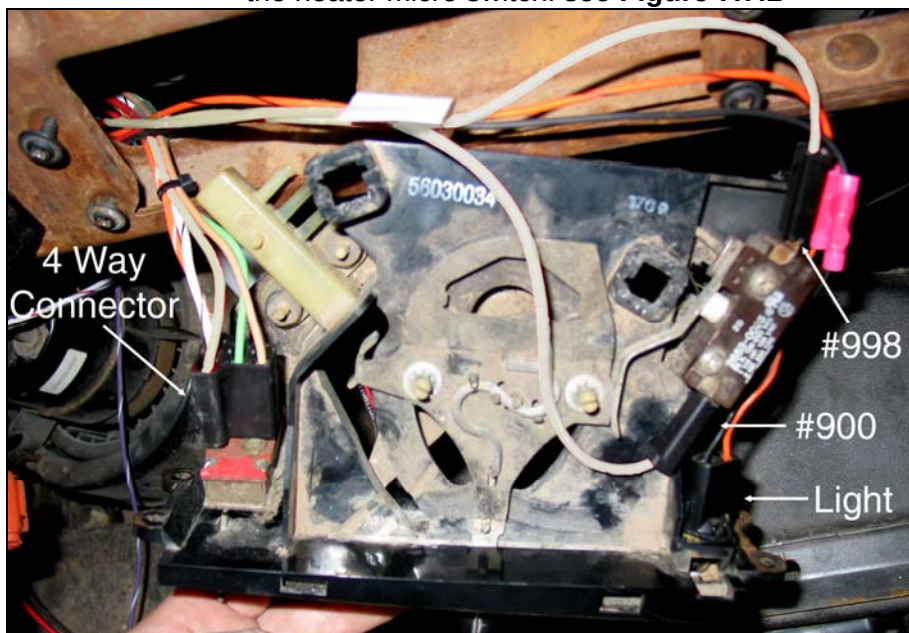
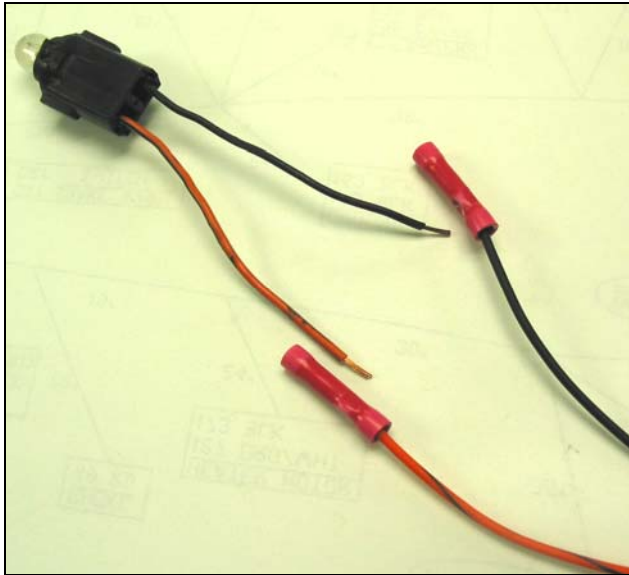

Figure 7.7.1 HVAC Switch
Figure 7.7.2 HVAC Panel Light
- 7.7.1 Connect the black 4 way connector to the heater switch. see **Figure 7.7.1**
- 7.7.2 Cut the HVAC light from the factory harness. Cut the wires 4" – 6" from the light socket. Insert this "pigtail" in to the hole on the right side of the HVAC switch, see **Figure 7.7.1**. Route the Orange/Black #930 HVAC PANEL LIGHT (B+) & the Black #969 HVAC PANEL LIGHT GROUND to the pigtail. Cut the #930 and #969 wires to length. Strip the two wires of the pigtail and the two wires from the Painless harness. Using the two of the splices provided in the parts kit, splice the #930 & #969 wires to the panel lamp, matching the Painless colors to the factory colors. see **Figure 7.7.2**
- 7.7.3 Connect the White #998 MICRO SWITCH (BACK) wire to the back of the heater micro switch. Connect the White #900 MICRO SWITCH (FRONT) wire to the front of the heater micro switch. see **Figure 7.7.1**